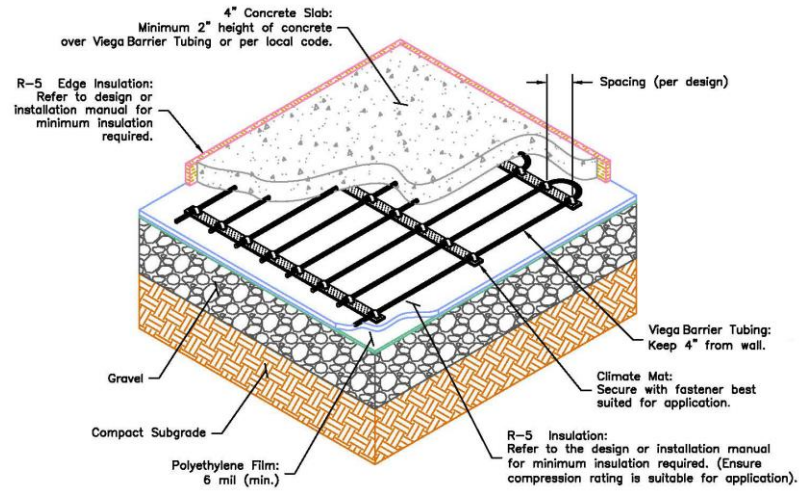

Figure 9 Climate Mat – In-Slab With Insulation
**Climate Mat:** Climate Mat is a prefabricated tubing assembly made to order and delivered in cylindrical rolls. Climate Mat is engineered for rapid installation; up to 6 circuits can be laid down at once. Climate Mat utilizes 1/2" (12.7mm) or 5/8" (15.9mm) tubing with 6", 9" or 12" center spacing. After inspection of tubing, place mats per radiant design. Secure the first spacer strip to the sub base or wire mesh (fastening methods will vary depending on the type of sub base). Unroll the mat and pull it tight ensuring that it is straight and square. Attach the last spacer strip to the sub base or wire mesh. Return and anchor each spacer strip with at least two fasteners. Run the leaders back to the manifold location and attach the tubing. Fasten the leaders to the sub base with the appropriate fastener and spacing. See Figure 9.